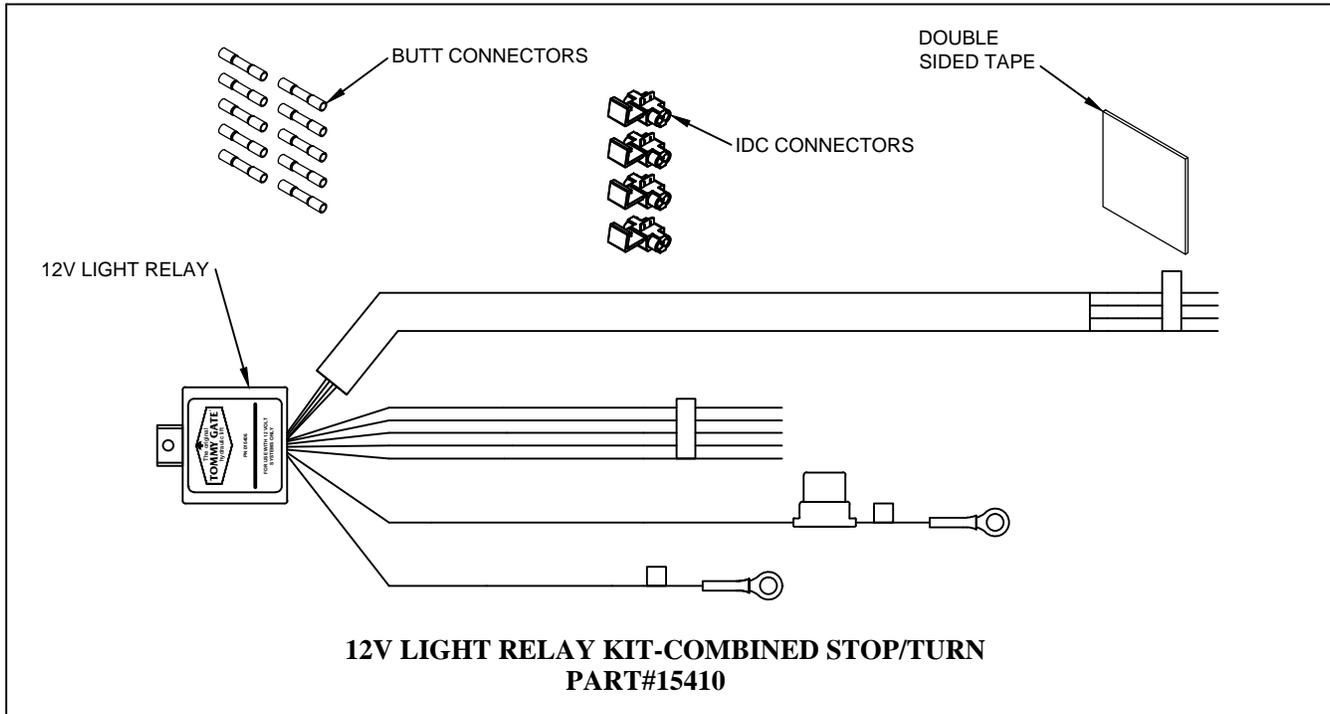

Figure 1: Part Identification.
1. Verify the parts of the **12V Light Relay Kit-Combined Stop/Turn** (Table 1 and Figure 1).